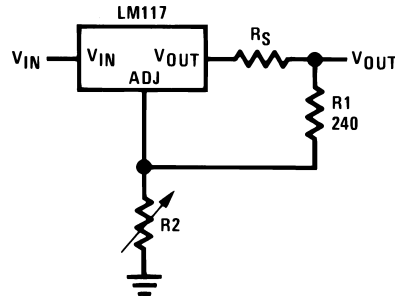

Figure 23. Regulator with Line Resistance in Output Lead
**Figure 23** shows the effect of resistance between the regulator and 240 $\Omega$  set resistor.